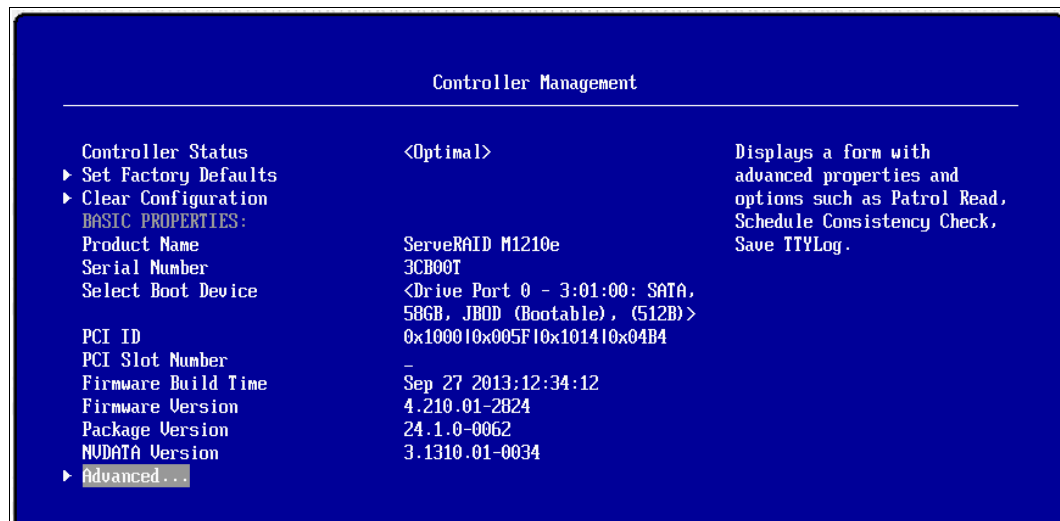

Figure 5-20 Controller Management panel, Advanced option selected
3. Access the **Controller Management** panel and then select Advanced, as shown in Figure 5-20.